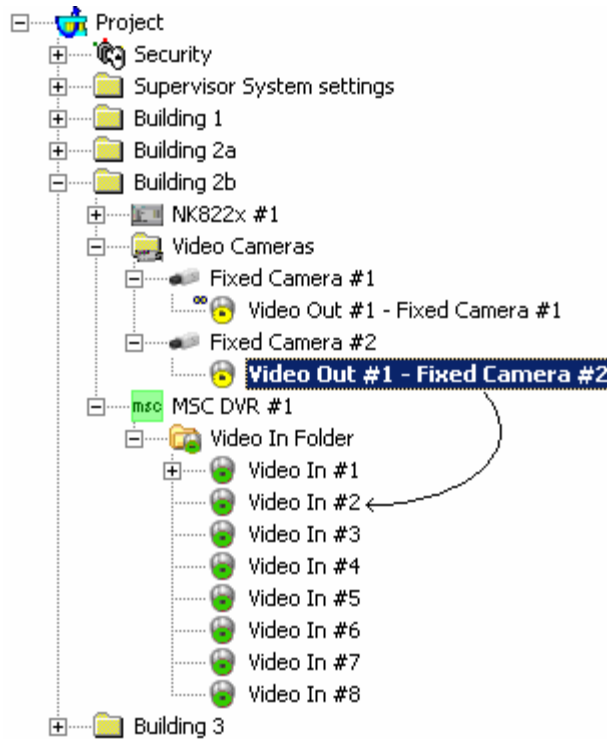

Fig 7 Connecting cameras to MultiScope
5. Drag and drop the 'video signal' to the MultiScope video-in node (Fig 7).